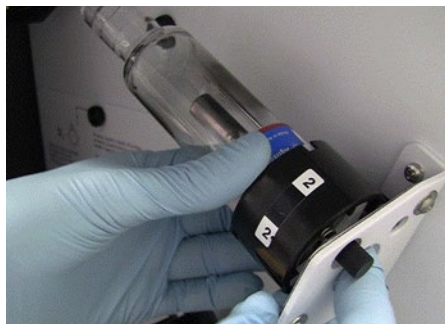

Figure 86. Hollow cathode lamp mount
- 4 Press and hold the white button located at the underside of the socket (see Figure 86 on page Figure 86).